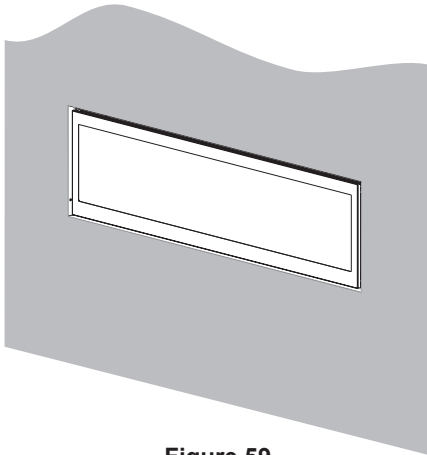

Figure 59
2. Sheathing and framing may be placed to the stainless top, bottom and side surfaces. The back side of the outdoor kit and the top surface of the fireplace are non-combustible zones. See Figure 59.